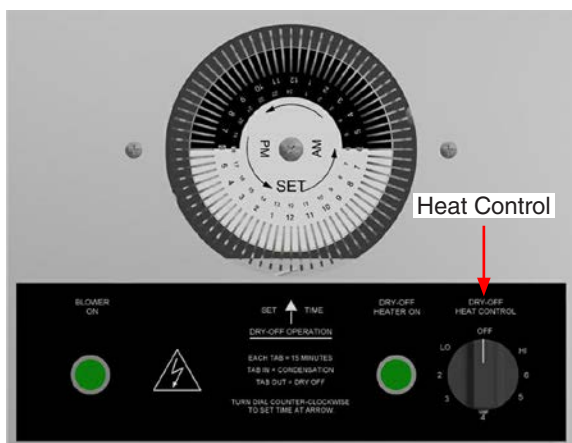

Figure 7.5c: Dry-off heat control, heater on indicator, and blower on indicator.
- The dry-off heat control (Figure 7.5c) is used to set dry-off temperature.